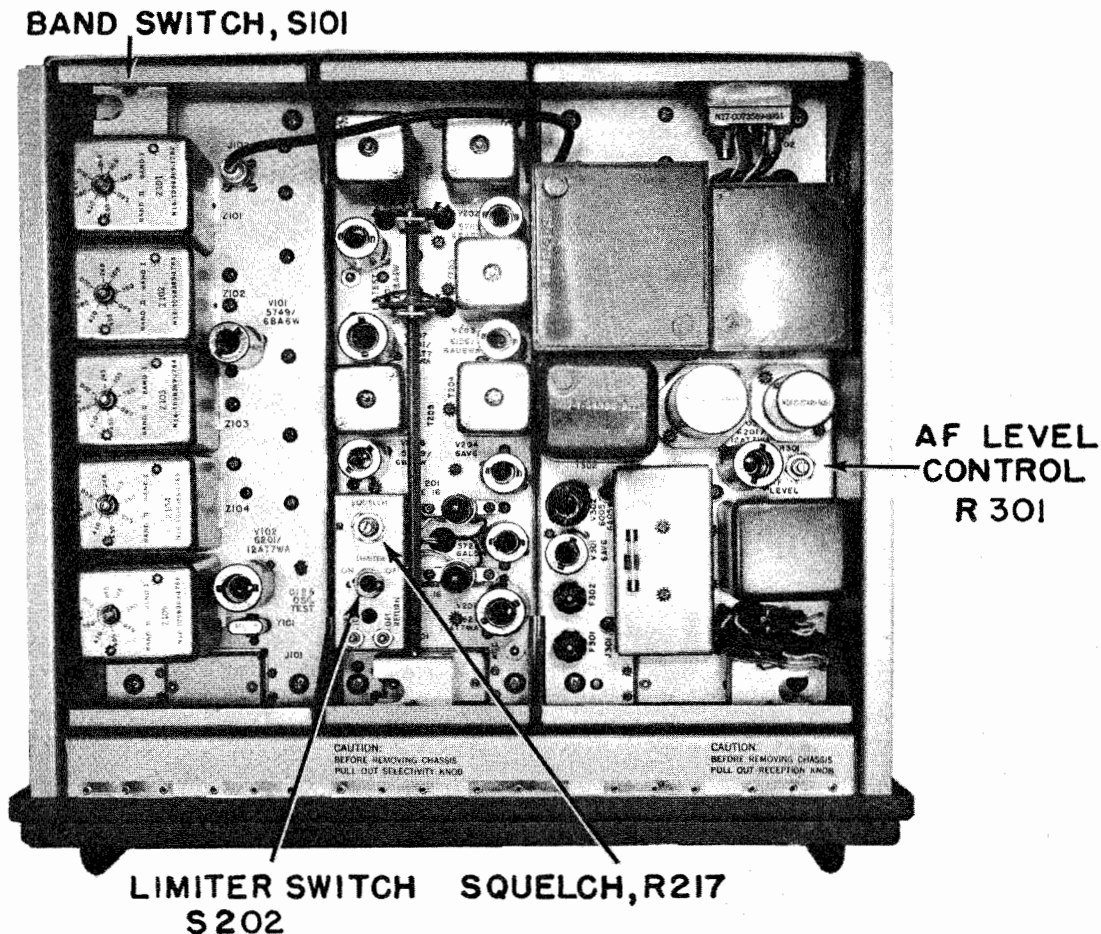

Figure 4-3. Photo—Top View of Receiver Set out of Case, Showing Chassis Controls
b. **CHASSIS CONTROLS.**—These controls, located on the RF, IF and Audio/Power Supply chassis as indicated in Figure 4-3 permit adjustment of various receiver functions and should not require readjustment after the initial installation, unless a change in operating conditions is required. These changes should be performed only by qualified personnel.